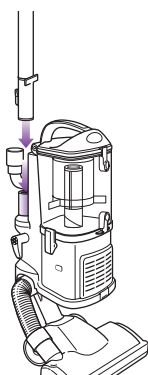

Fig. 9
- 3 Attach the end of the extension wand to the tube on the back of the detachable canister until it clicks into place. **(Fig. 9)**